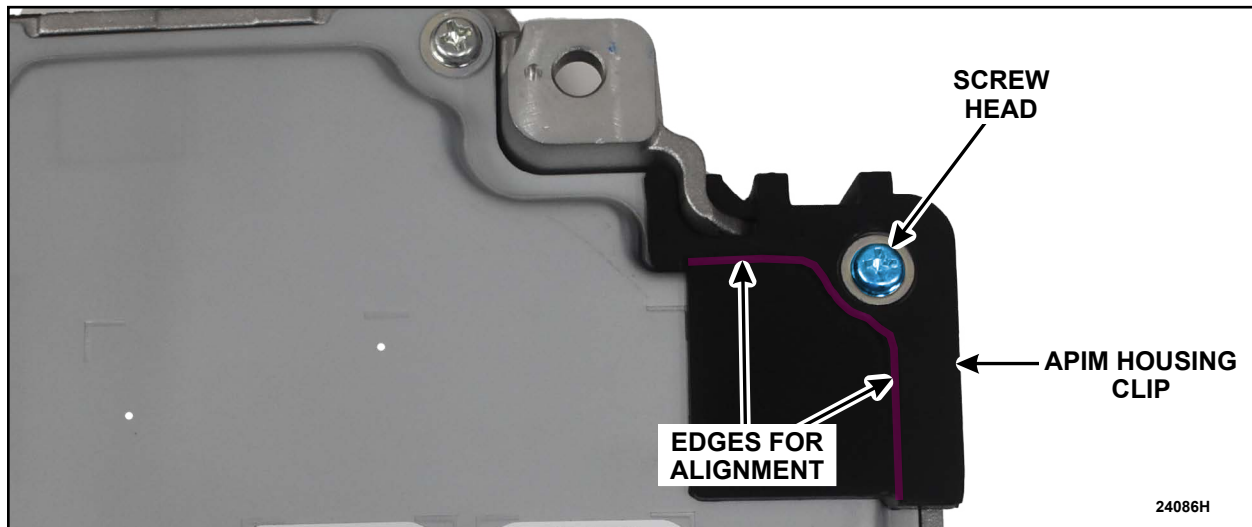

FIGURE 8
9. Remove the paper liner to expose the adhesive on the APIM housing clip. Place the clip on the back side of the APIM housing, in the corner. Use the two edges and the screw head as alignment guides. See Figure 8